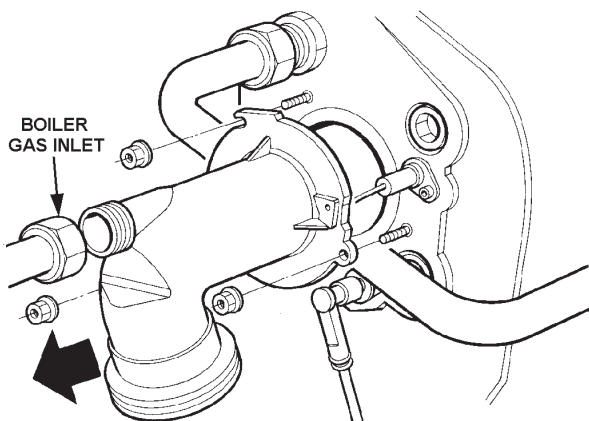

FIG. 17
2. Unscrew boiler gas inlet. (See Fig. 17).
3. Remove 3 M6 nuts from boiler manifold. (See Fig. 17)